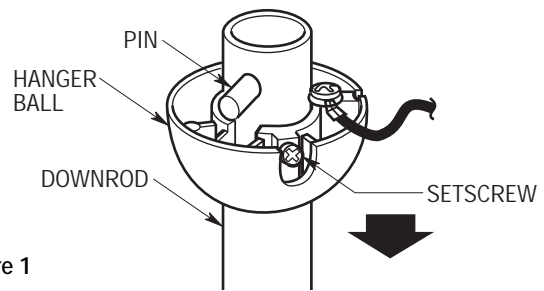

Figure 1
2. Remove the hanger ball from the downrod by loosening the setscrew in the hanger ball until the ball falls freely down the downrod (Figure 1). Remove the pin from the downrod, then remove the hanger ball. Retain the pin and hanger ball for reinstallation in step 8.